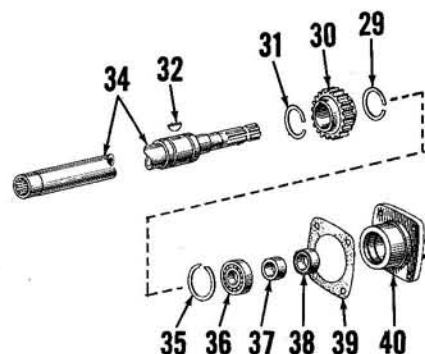

Fig. 172—Exploded view of standard PTO output shaft assembly.
**224. REMOVE AND REINSTALL.** First, drain rear axle center housing lubricant, then remove cap screws retaining output shaft bearing support (40—Fig. 172) in rear axle center housing and withdraw the output shaft assembly.